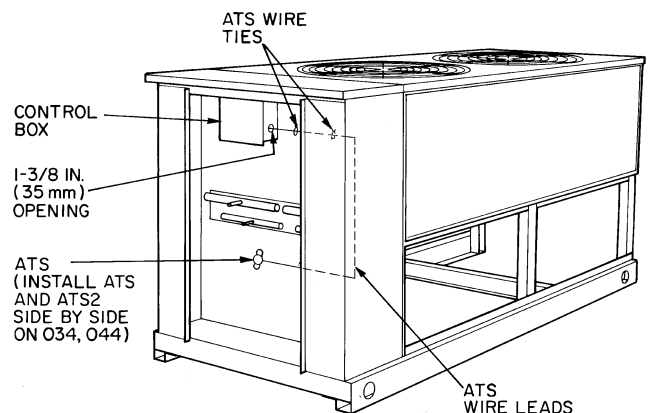
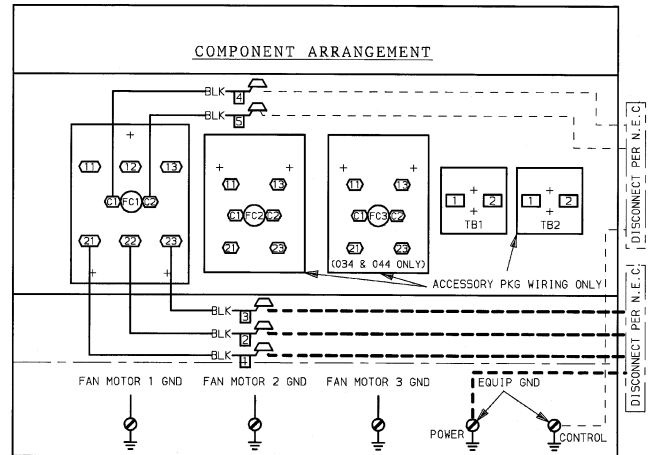

Fig. 9 — Model 09DK (028 Shown)
Fig. 10 — Component Arrangement
2. Remove unit control box cover. See Fig. 9.
3. *09DK020-028 Units:* Mount temperature actuated switch (ATS) onto the bottom inner divider panel of unit, using two no. 6AB x 1/2-in. long screws provided. Screw holes are predrilled in panel. See Fig. 9.
*09DK034,044 Units:* Mount temperature actuated switches (ATS and ATS2) onto the bottom inner divider panel of unit, using two no. 6AB x 1/2-in. long screws provided. (2 screws for each switch). Mount switches side by side in predrilled holes. See Fig. 9.
4. *09DK020-028 Units:* Install fan contactor FC2 and terminal block TB2 inside control box. See Fig 10. Disconnect red wire from FC1 (11) and orange wire from FC1 (13). Connect red wire to FC2 (21). Connect orange wire to FC2 (23). Attach 8-in. black wire provided in accessory package to FC1 (11) and FC2 (11). Connect the 8-in. blue wire to FC1 (13) and FC2 (13). Next, connect the 8-in. white wire to FC1 neutral side, and FC2 (C2). Attach the 18-in. black wire to FC1 control power side and TB2 (1). Connect one lead of ATS to TB2 (1) and connect the other lead to FC2 (C1).
09DK034,044 Units: Install fan contactors FC2 and FC3 and terminal block TB2 inside control box. See Fig 9. Add terminal adapter to TB2 [1]. See Fig. 10 and 11. Disconnect red and pink wires from FC1 [11]. Also, disconnect orange and gray wires from FC1 [13]. Connect red wire to FC2 [21] and pink wire to FC3 [21]. Also, connect orange wire to FC2 [23] and gray wire to FC3 [23]. Attach 8-in. black wire provided in accessory package to FC1 [11] and FC2 [11]. Connect the other 8-in. black wire to FC1 [11] and FC3 [11]. Connect an 8-in. blue wire to FC1 [13] and FC2 [13]. Attach the other 8-in. blue wire to FC1 [13] and FC3 [13]. Next, connect an 8-in. white wire to FC1 neutral side and FC2 [C2]. Attach the other 8-in. white wire to FC2 [C2] and FC3 [C2]. Connect the 18-in. black wire to FC1 control power side and TB2 [1]. Attach one lead of ATS (Air Temperature Switch) to TB2 [1] and the other lead to FC2 [C1]. Connect one lead of ATS2 to TB2 [1] and the other lead to FC3 [C1]. See Fig. 12 for wiring connections.
5. Route the wire leads of ATS around the coil, keeping them away from the coil and any sharp metal edges. Install wire ties provided through predrilled holes in upper divider panel. See Fig. 9. Run ATS wire leads through wire ties, then into the 13/8-in. (35 mm) diameter control box opening.